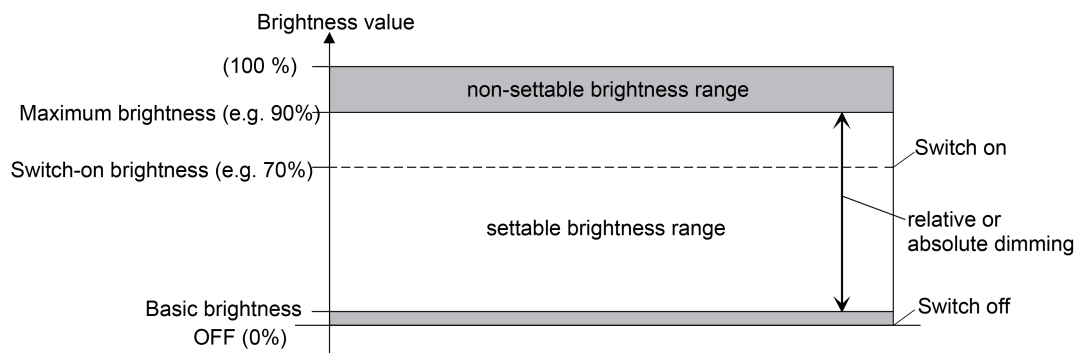

Figure 13: Example of a brightness range with basic brightness
- Definition of the lower brightness limit with basic brightness (Figure 13):